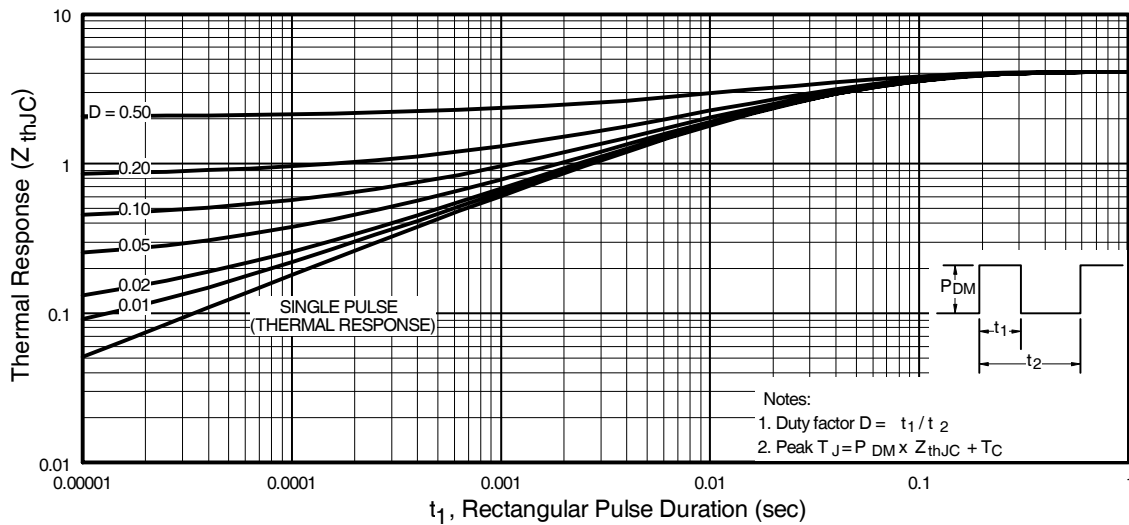

Fig 11. Maximum Effective Transient Thermal Impedance, Junction-to-Case
① Repetitive rating; pulse width limited by max. junction temperature. (See fig. 11)
② $V_{DD} = 25V$, starting $T_J = 25^\circ\text{C}$, $L = 610\mu H$